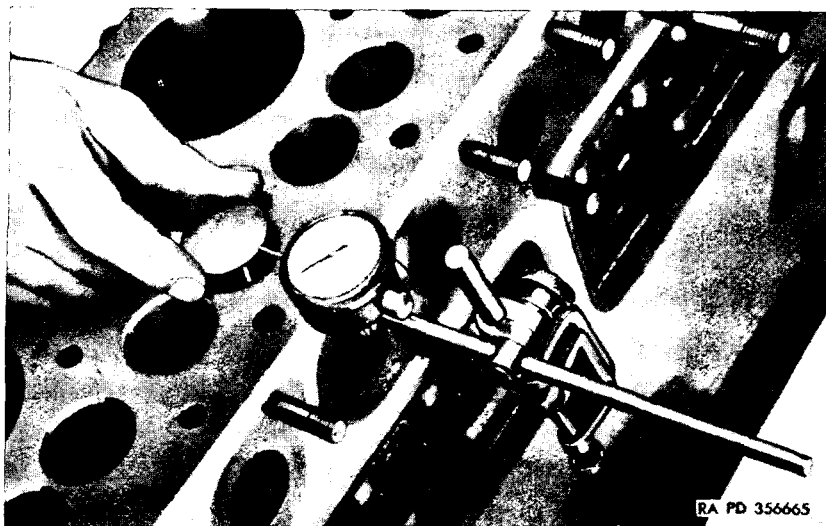

Figure 65. Checking valve stem clearance in guide.
e. Inspect Valve Stem Guides. Clean the interior of the valve stem guide with a wire brush and dry cleaning solvent or volatile mineral spirits. Place the valve in the guide with the head five-sixteenths of an inch above the top of the cylinder block. Use dial indicator and adjust the plunger of the indicator against the edge of the valve head (fig. 65). Hold the valve so that it will not turn and move the valve toward and away from the indicator and note the amount of play shown by the indicator. This check should be made by moving the valve crosswise of the surface of the block. The clearance between the valve stem and the guide will be approximately one-half the dial indicator reading for the intake valves and 0.44 of the reading for the exhaust valves. If the calculated clearance exceeds the repair and rebuild standards (par. 68), replace the guides.